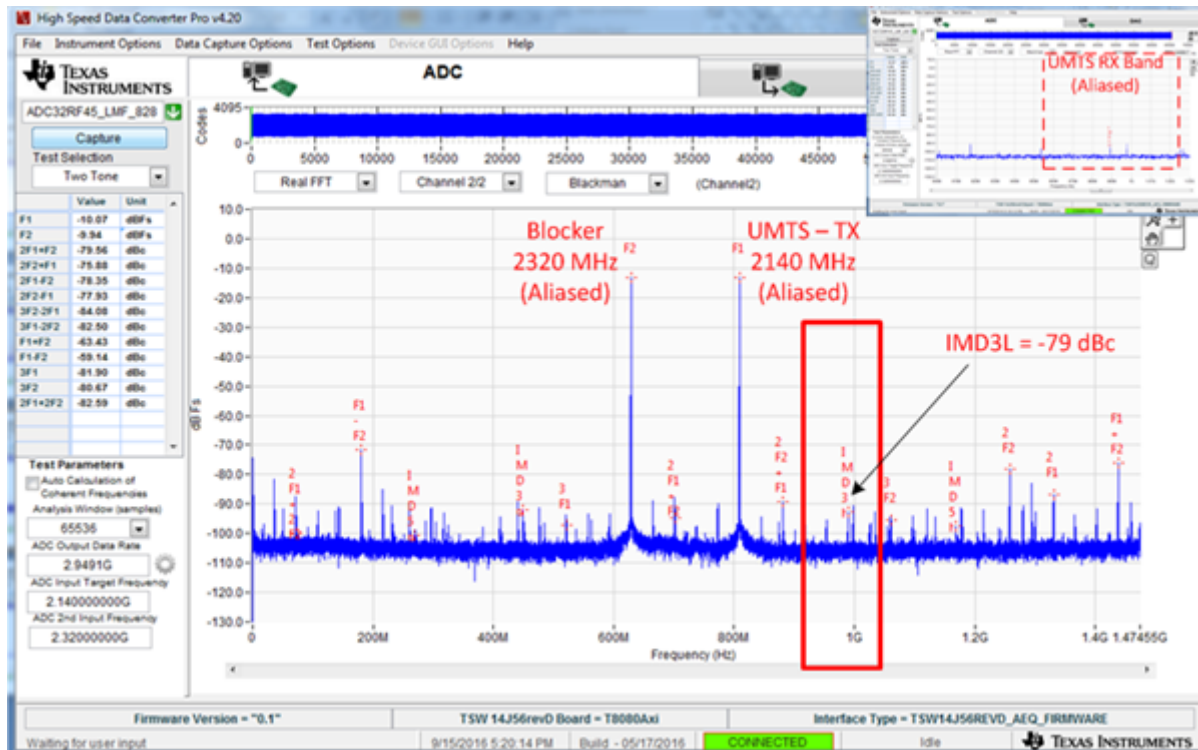

Figure 4. IMD3 Performance with Transmit Bleedthrough and Blocker Signal
Figure 4 shows another interference scenario with transmit (TX) bleedthrough at 2.14GHz and jammer at 2.32GHz. The IMD3 performance is about -79dBc. The IIP3 performance calculated from the measured results referenced to a 50Ω system is used in the cascaded lineup analysis. Note that small changes in filtering and gain have a large impact on performance. This is due to the 3-to-1 ratio inherent in third-order intermodulation. Judicious use of attenuation or increased filtering in the proper place makes for a significant improvement in system performance.